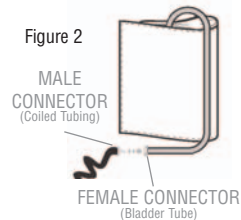

Figure 2
2. Firmly insert male connector of coiled tubing into female connector at end of the Adcuff™ bladder tubing. Be sure the connectors are tight (Figure 2).